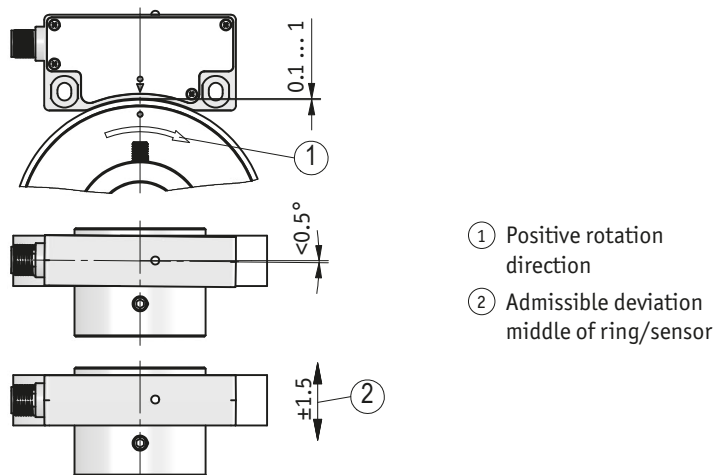

Fig. 1: Mounting tolerances with MRAC506
- ▶ Take care that the magnetic sensor is aligned correctly in order to ensure optimum sensing (see Fig. 1).
2. The position of the sensor regarding the magnetic ring is exactly defined. When mounting, special care shall be taken to maintain an air gap between ring and sensor over the whole measurement distance whether the ring or sensor is moved or not (see Fig. 1). As a mounting aid you may use the enclosed spacing template.